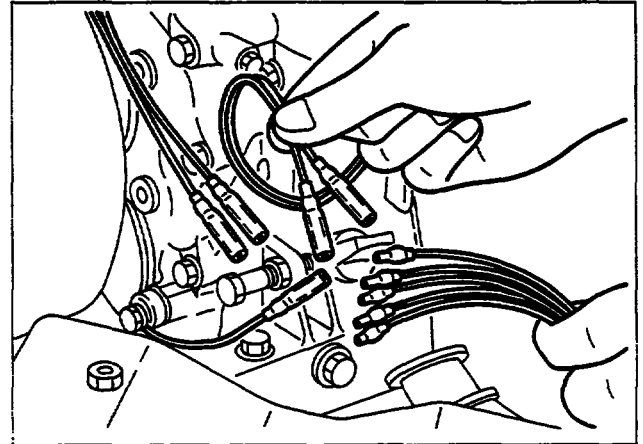

Fig. 10-45
- (6) Connect the light green and the pink leads of the control box to the starting motor. Connect the pink lead to the terminal of the motor and attach the light green lead together with the BATTERY CABLE (+) to the 6áo bolt of motor.
- (7) Clamp the wires of starting motor and oil sensor at the rear panel of control box, main bearing cover and front cover. (See Fig. 10-45.)